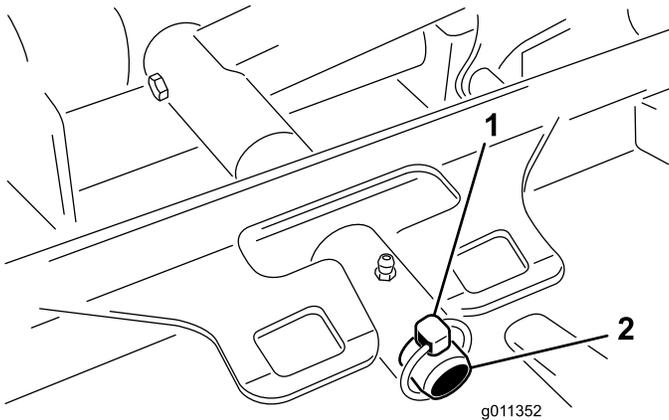

Figure 62
3. Remove the lynch pin securing the cutting unit carrier frame to the lift-arm pivot pin (Figure 62).
3. Slide the cutting unit carrier frame onto the lift-arm pivot pin. Secure with the lynch pin (Figure 62).